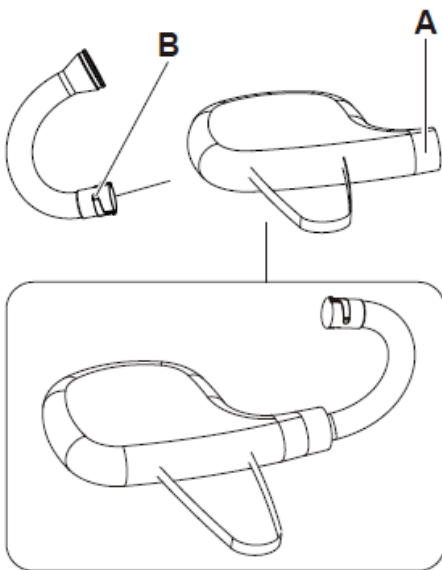

Fig. 4
- 1) Insert the curved tube through the zipper of the bag. Slotted end of tube (B) goes first through area (A) of bag. See complete assembly picture in FIG. 4 for the proper look. Once the tube is in place tighten the Velcro strap.